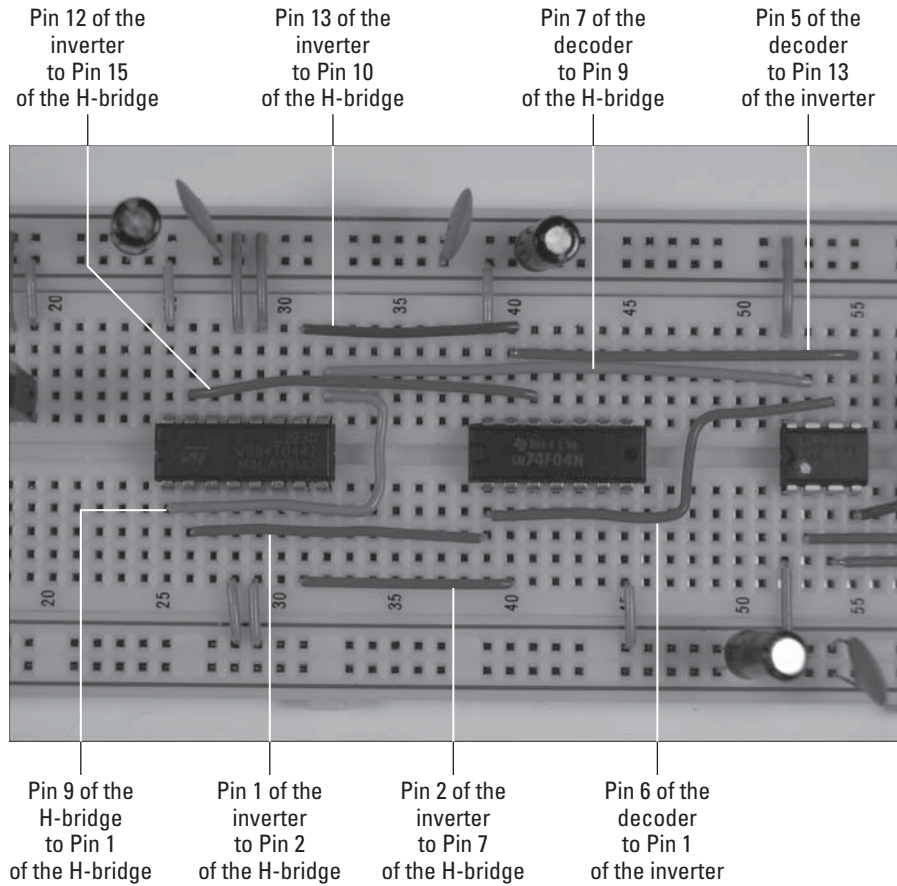

Figure 11-31: Inserting wires between pins on the decoder, inverter, and H-bridge.
8. Insert wires to connect the decoder, inverter, and H-bridge, as shown in Figure 11-31.